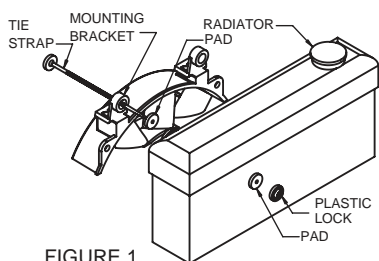

FIGURE 1
2. Place 4 pads on fan shroud as shown in fig 1. Install the remaining 4 pads on the tie straps as shown.